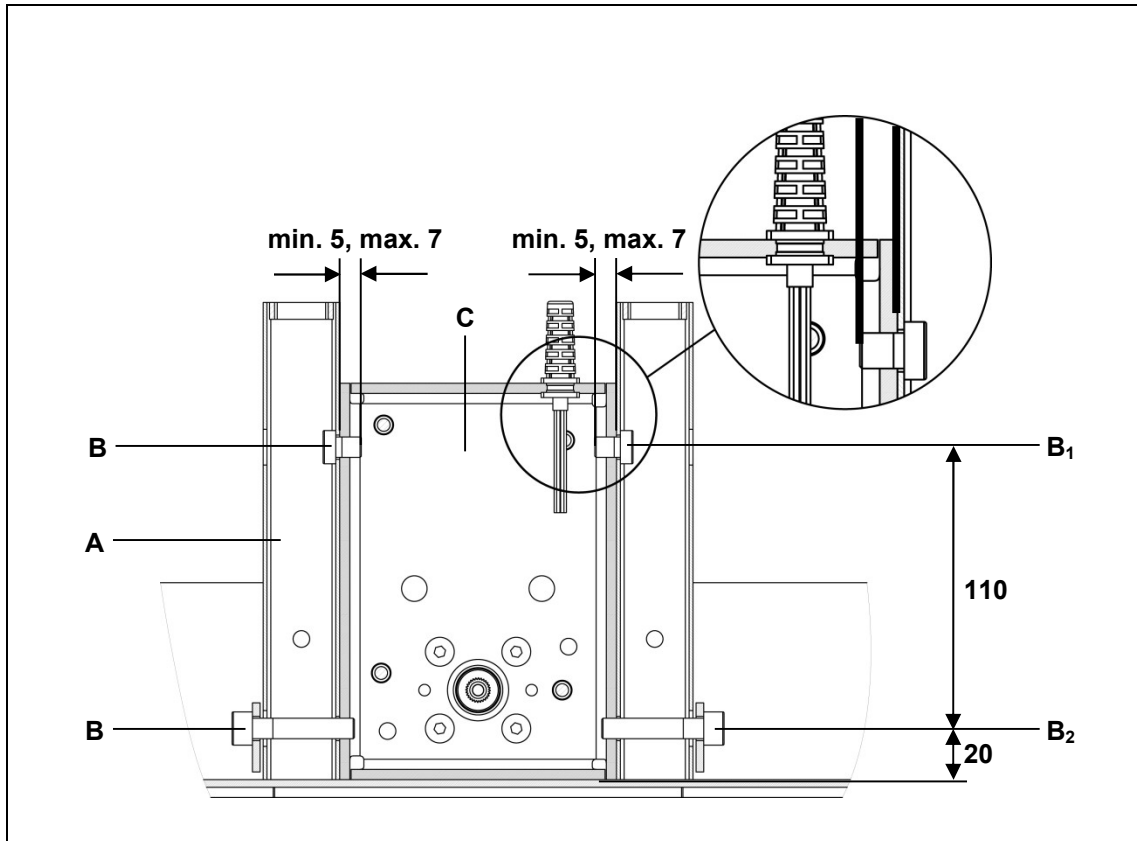
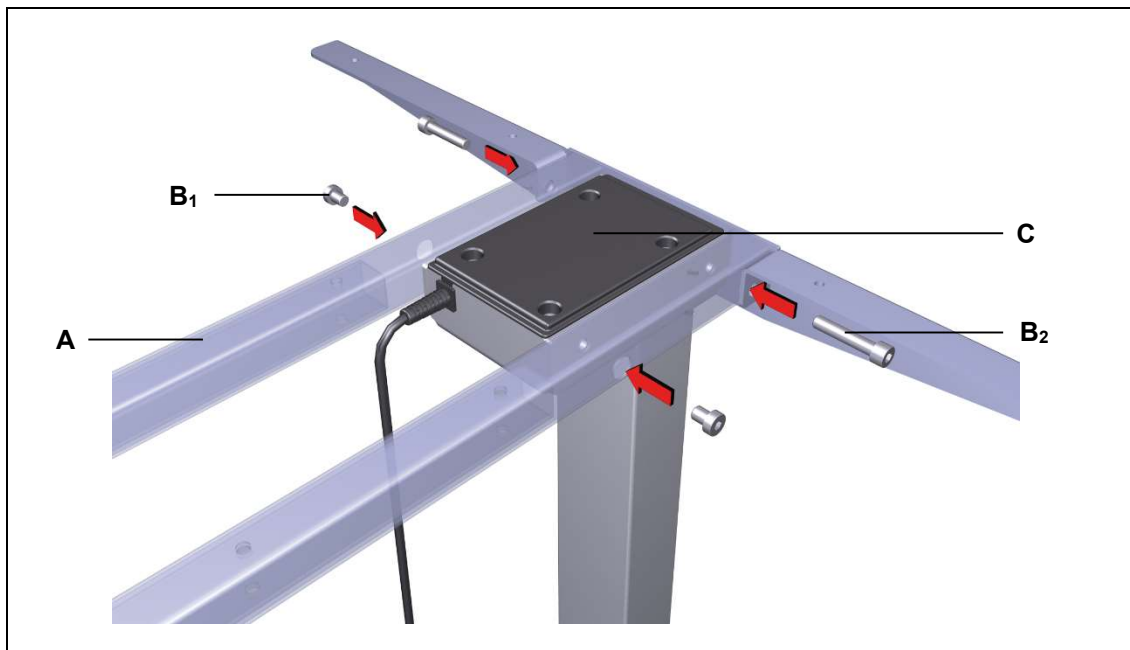

Figure 14 Example: Mounting the table frame (dimensions in mm)
Figure 15 Example: Mounting the table frame
- Use M8 bolts (with strength grade 8.8), as shown in Figure 14. The tightening torque must not exceed 20 Nm.
- 1 Set the table frame so that the holes are over the lifting column. Use four screws to attach the table frame to the motor housing of the lifting column, as shown in Figure 15 (maximum tightening torque is 20 Nm). The mounting dimensions are shown in Figure 14.